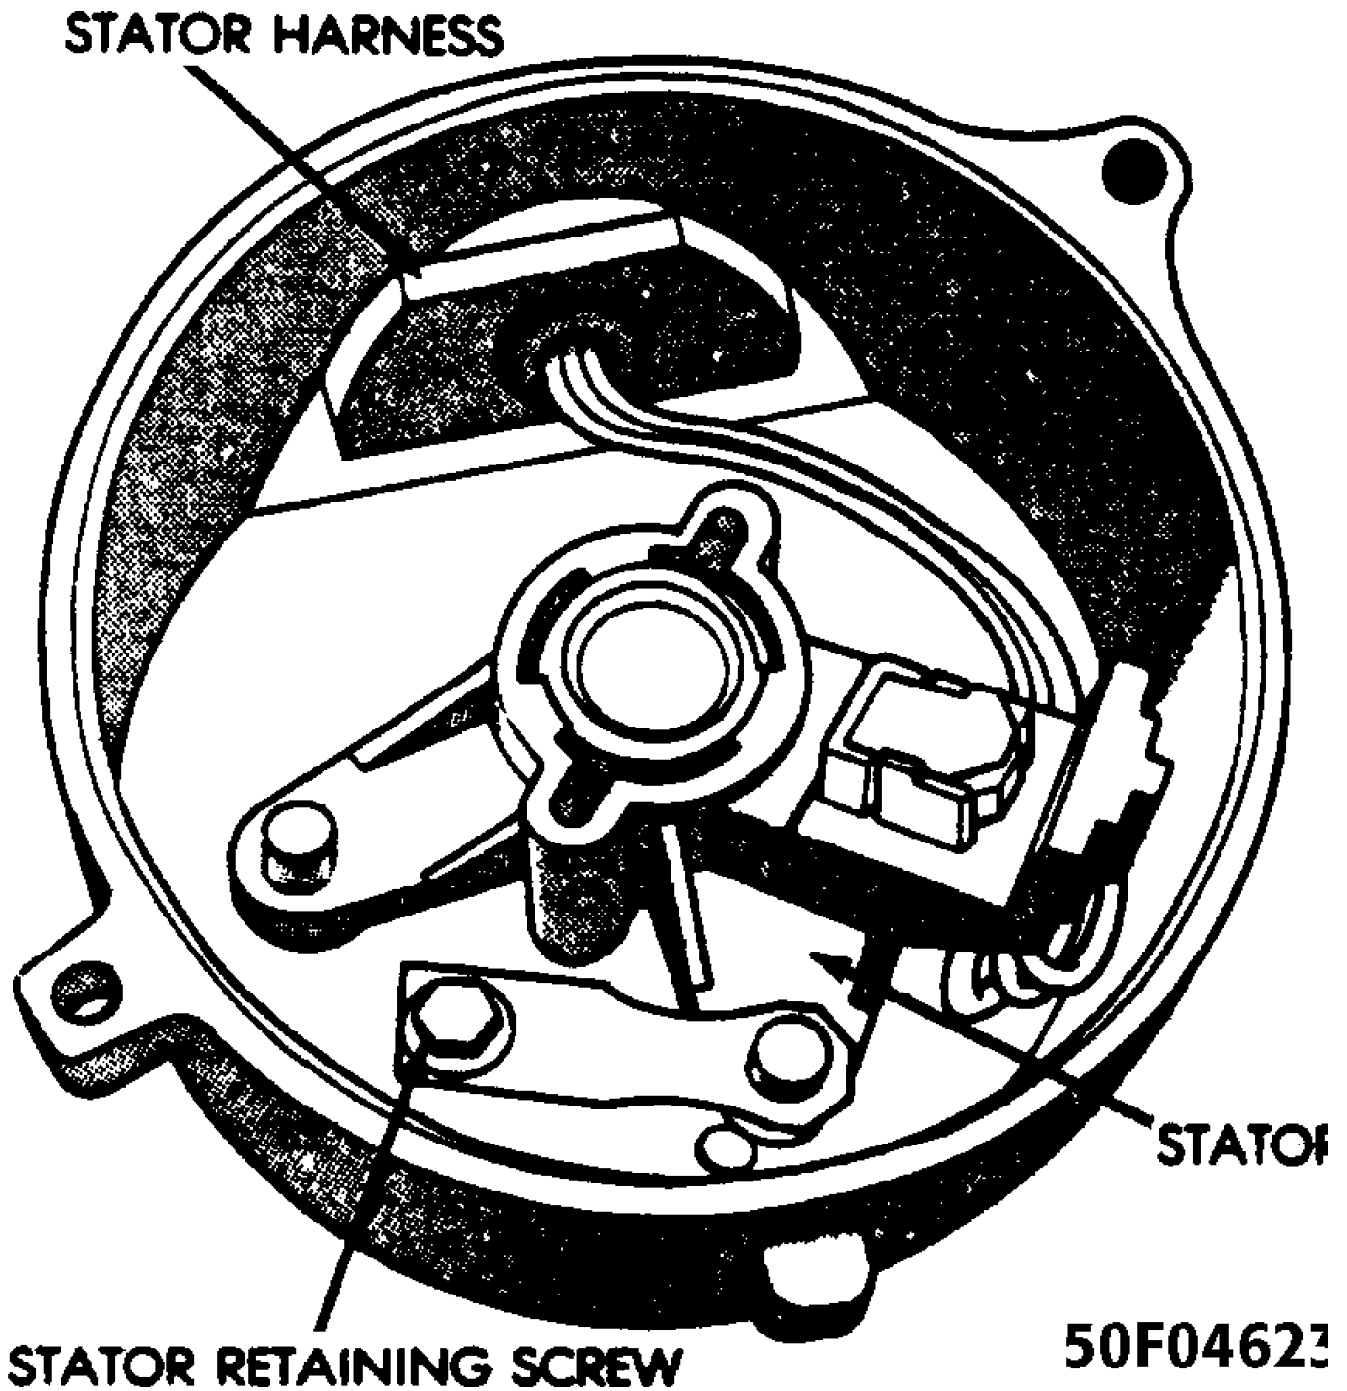

Fig. 30: Location of Stator Retaining Screw
7) Remove stator harness by pushing the grommet through the distributor housing. Remove stator assembly. See Fig. 30.